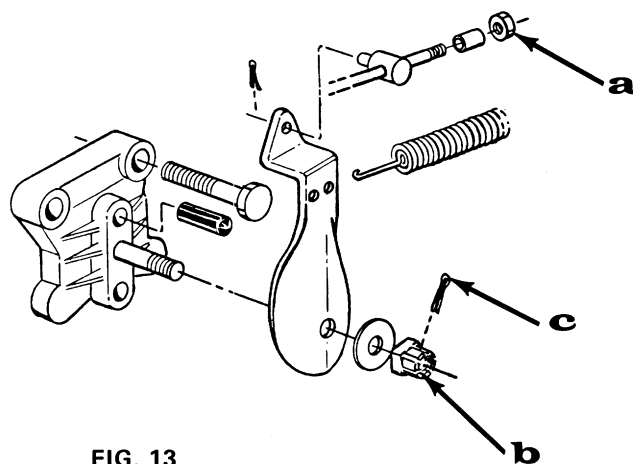

FIG. 13
FINE BRAKE ADJUSTMENT — Remove hair pin (C). Turn the castle nut (B) clockwise to tighten one quarter revolution and check brakes. Repeat as necessary to have proper braking power. Replace hair pin (C). (See Fig. 13).
PEDAL ADJUSTMENT — To take up the adjustment on the brake linkage, tighten or loosen the hex nut (A) on brake linkage. (See Fig. 13).